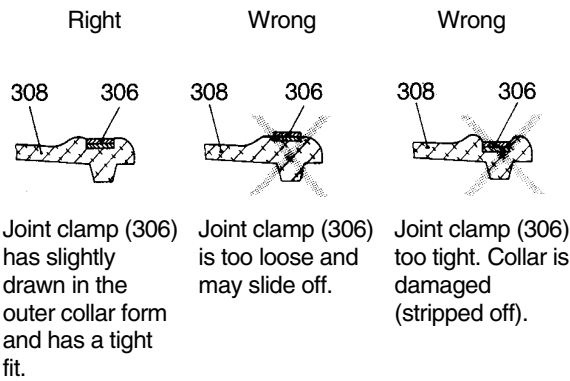

Figure 14: Tightening the joint clamps
Note: The right tightening of the joint clamps (306) is portrayed in figure 14.